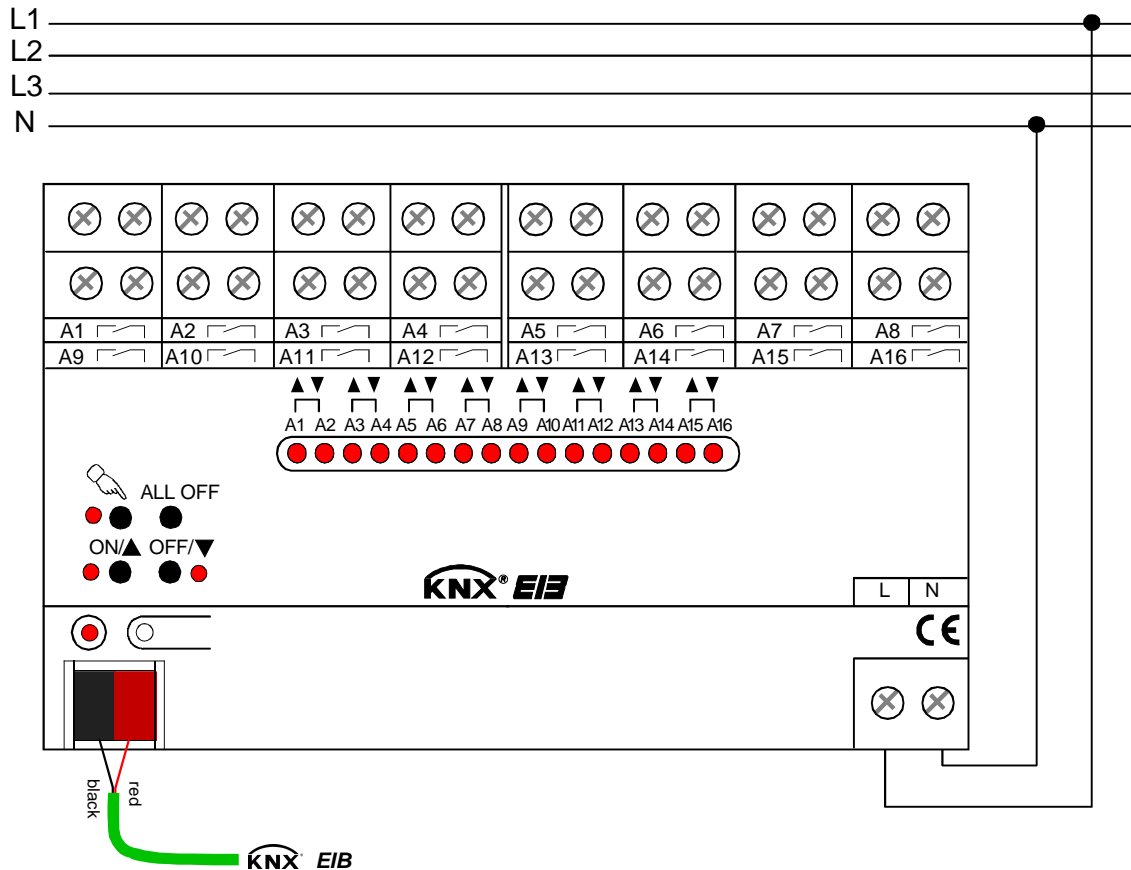

Fig. 1: Electrical connection of mains voltage
- Connect the bus (standard bus terminal) and the mains voltage as shown in Fig. 1 (wiring example).